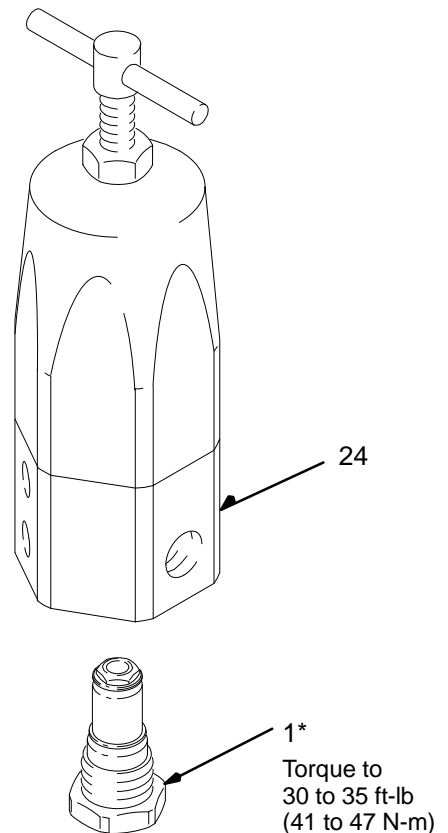

Fig. 1
2. Remove the cartridge by loosening the valve housing (1) and pulling the cartridge assembly out of the regulator housing (24). See Fig. 1.
3. Install the new cartridge assembly into the regulator housing (24). Torque the valve housing (1) to 30 to 35 ft-lbs (41 to 47 N•m).